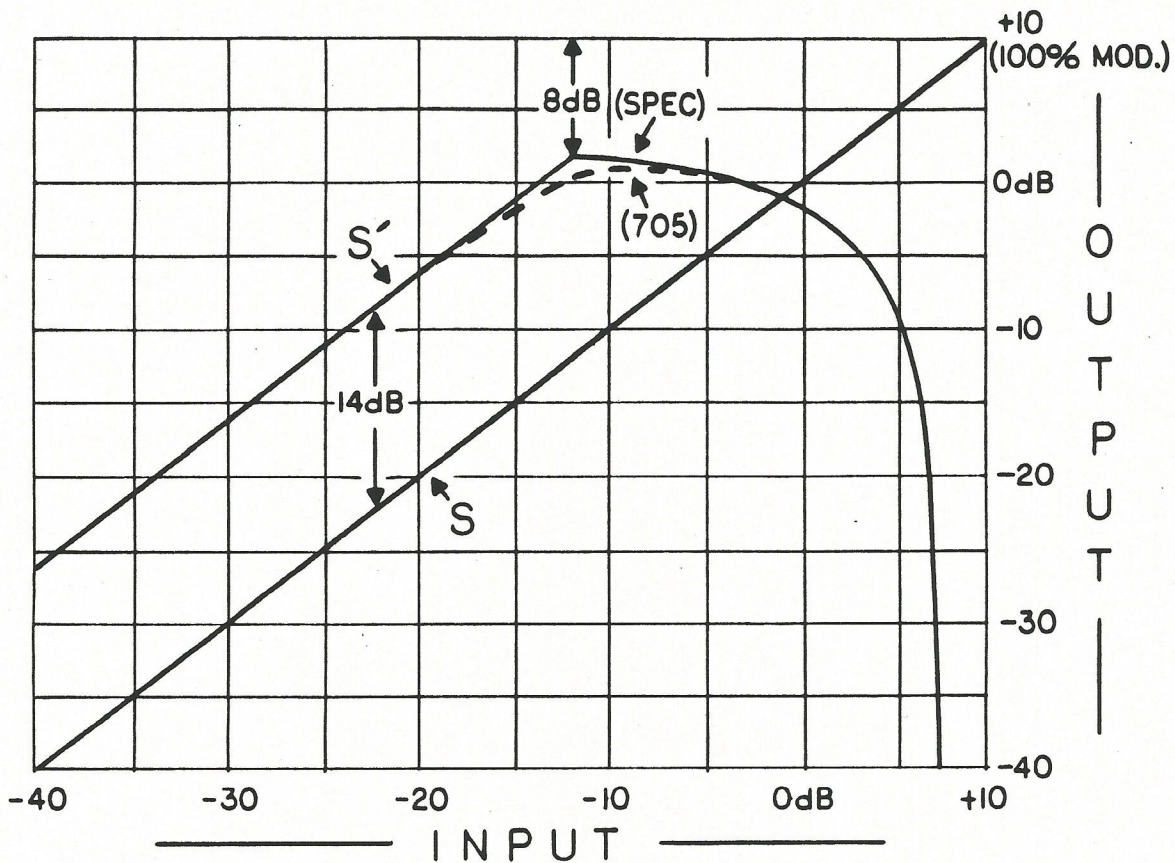

Figure 1 - FMX™ COMPRESSION CHARACTERISTIC
The compression transfer function (input vs. output) of the "quadrature" subcarrier (S') has a "reentrant" or dynamic inversion characteristic; that is, the level of S' reaches a maximum value then begins to drop (even as the input continues to increase) until it "shuts off" completely. S' shutoff is concurrent with maximum levels of the normal stereo subcarrier (S). Total modulation, including the L+R "mono" (M) component, (M + S + S') should never exceed the usual 100% value of the "interleaved" stereo signal. The FMX™ compression function is graphed in Figure 1.